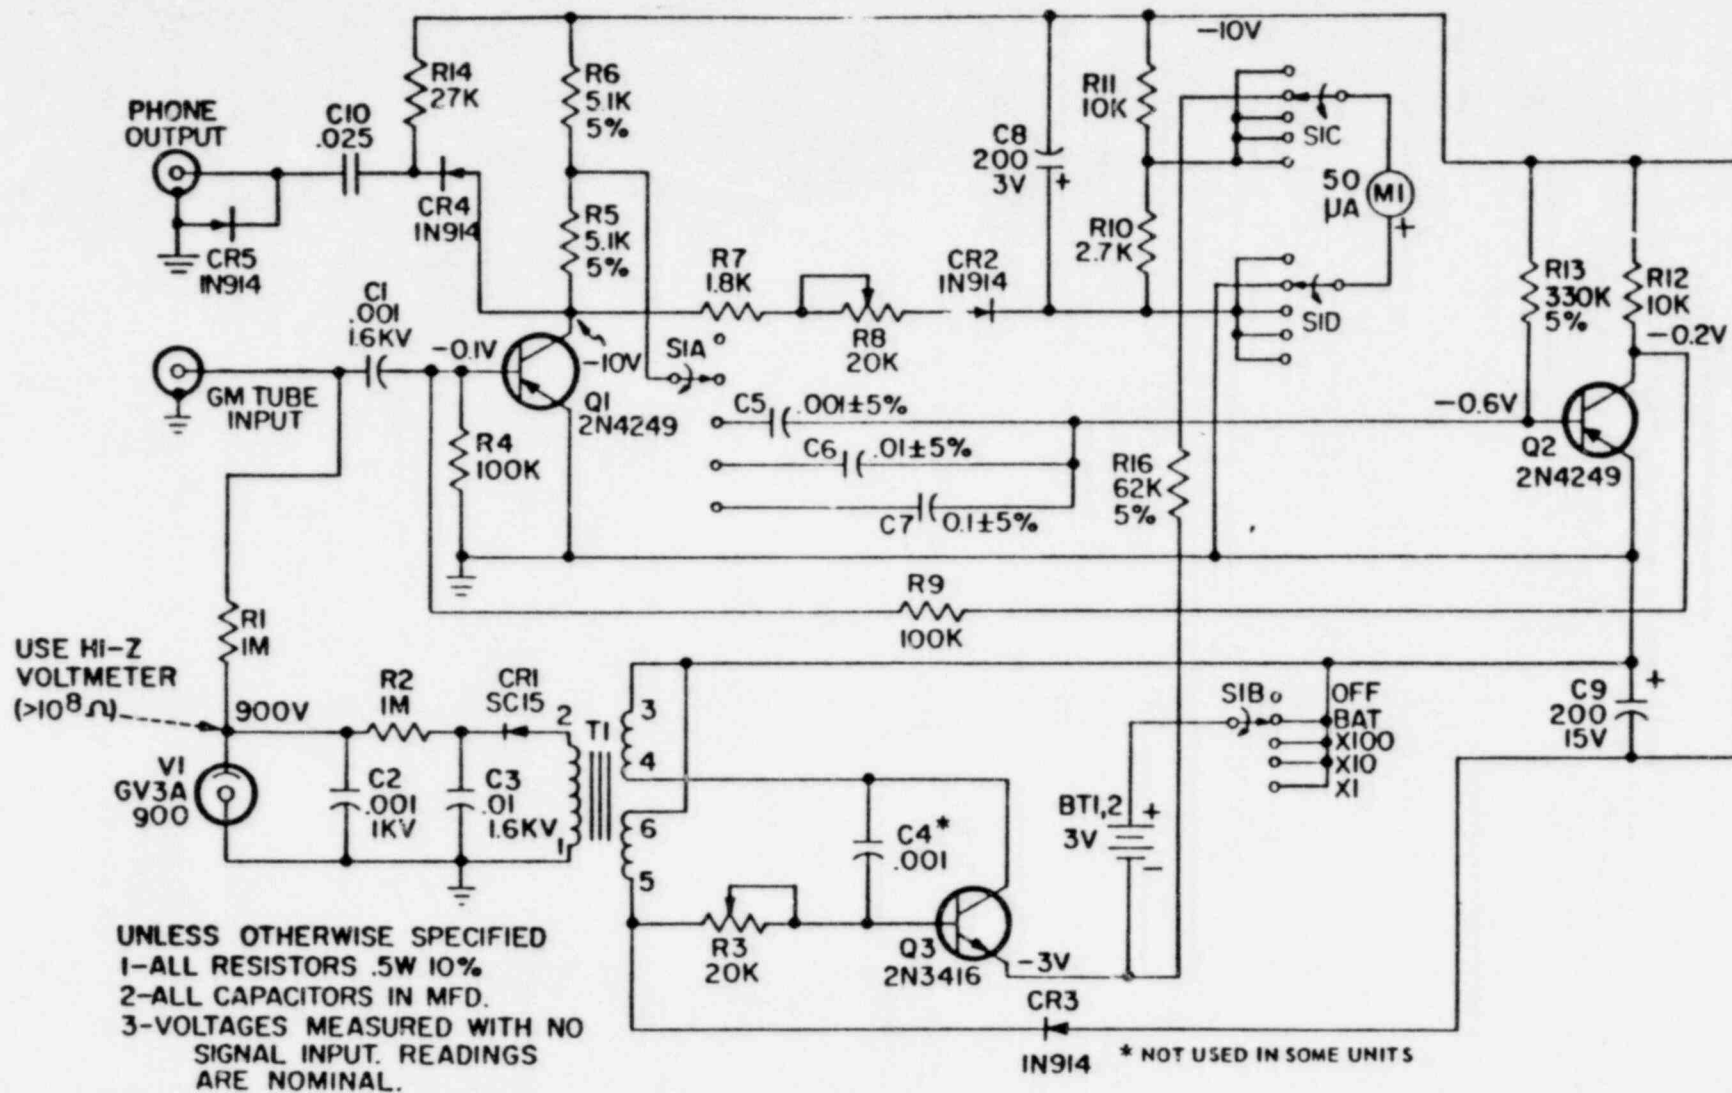

FIGURE 7. Schematic Circuit Diagram
3.1 General - The overall operation of the Model 493 can best be understood by referring to the schematic circuit diagram, Figure 7. The GM tube detector is supplied with a regulated high voltage from the power supply, via R1. When the detector is energized by a photon of radiation, the current through R1 increases briefly, causing a negative pulse to appear at C1. This pulse is coupled via C1 to the pulse shaping circuit which amplifies and shapes the pulse. The shaped pulse supplies current for readout to the meter and its associated response time circuit, and the headphone output.